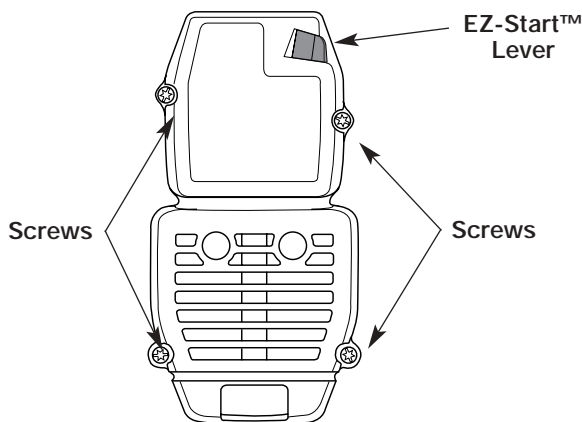

Fig. 36
1. Remove the four (4) screws securing the air filter/muffler cover (Fig. 36). Use a flat blade or T-20 Torx bit screwdriver.
2. Insert the four (4) screws into the holes in the air filter/muffler cover (Fig. 36) and tighten.